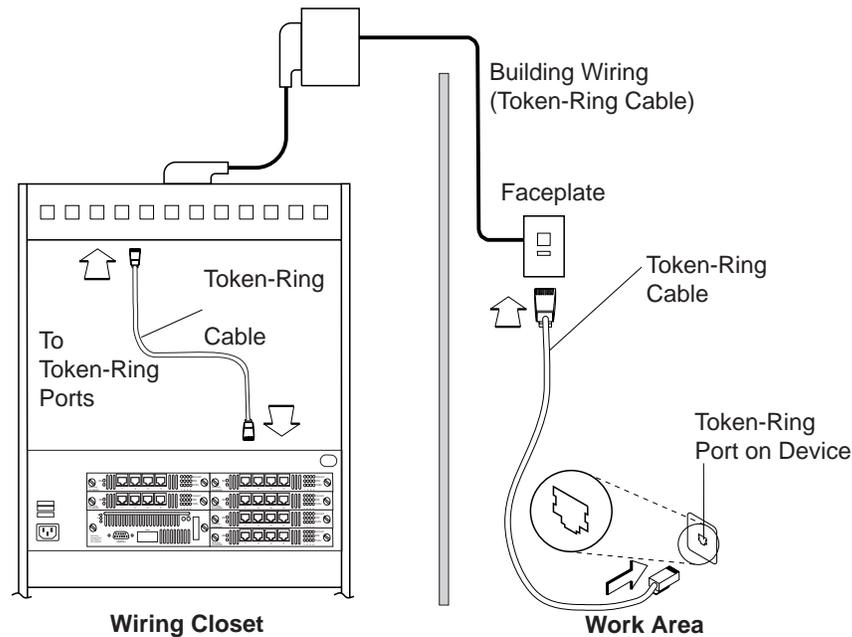

Figure 2-14. Connecting Devices to Token-Ring Ports Using Building Wiring
- Step 1.** Using the IBM 8270 Cabling Chart provided by your administrator as a guide, connect the cables between the devices and the faceplates as illustrated in Figure 2-14.